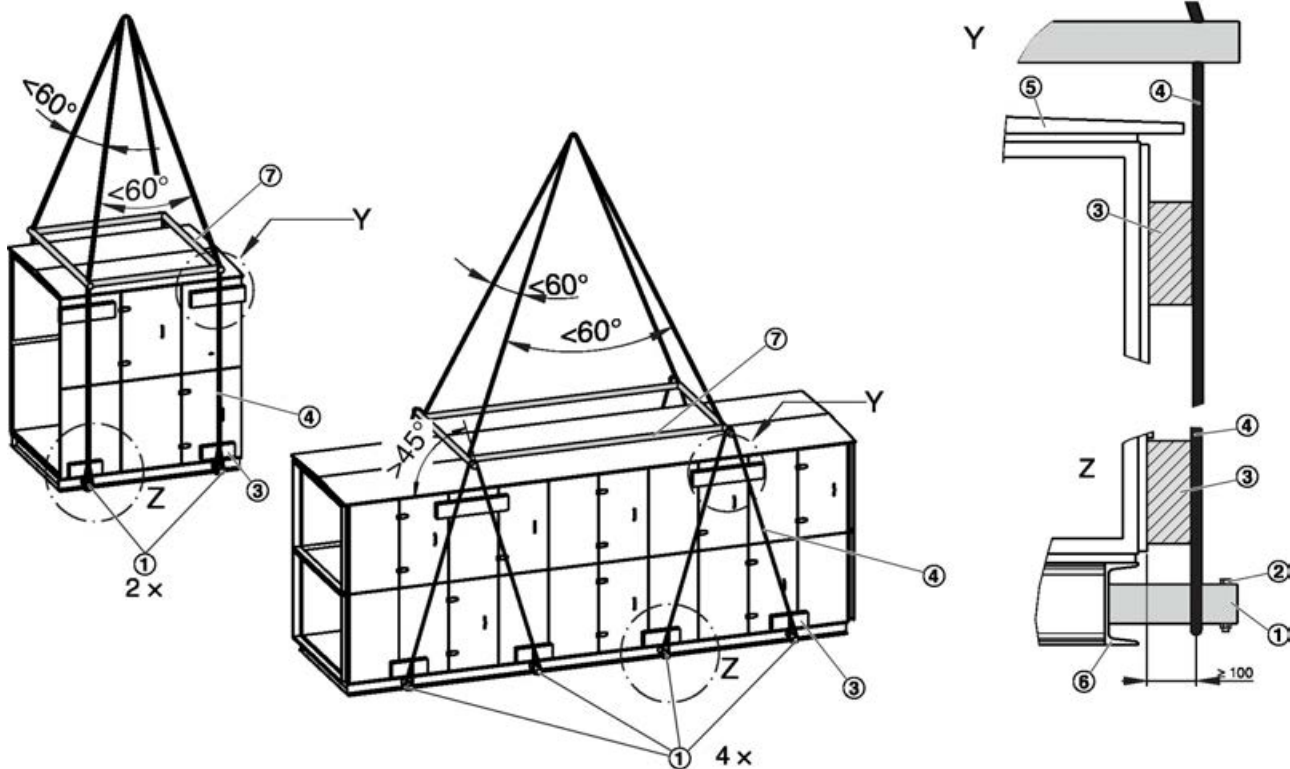

Fig. 8: Lashing points with two or four transport tubes
The number of drilled holes in the base frame (Fig. 8 /6) indicates the number of transport tubes (Fig. 8 /1) to be used.
- Select the lashing points based on the number of transport tubes used, Fig. 8
- 1 ▶ Push transport tubes (Fig. 8 /1) through the drilled holes in the base frame.
Secure the transport tubes with screws (Fig. 8 /2).
- 2 ▶ Place the slings (Fig. 8 /4) around the ends of the transport tubes.
Position slings between the base frame (Fig. 8 /6) and the screws (Fig. 8 /2).
Protect the edges with wood blocks (Fig. 8 /3). If a unit with a roof (Fig. 8 /5) is to be moved, use wood blocks that are thick enough to provide a distance of 100 mm between the sling and the casing unit.
Spread the slings near the roof with a suitable device (Fig. 8 /7), e.g. a spreader beam.